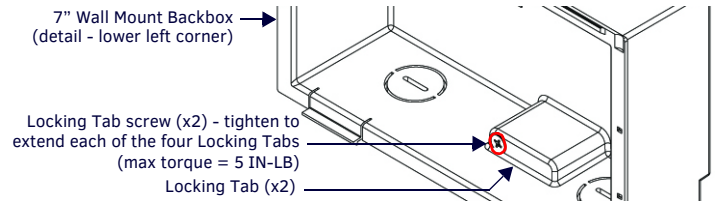

FIG. 3 BACKBOX - LOCKING TAB AND LOCKING TAB SCREW (X4)
- Extend the Locking Tabs by tightening the Locking Tab screws until snug (FIG. 3):